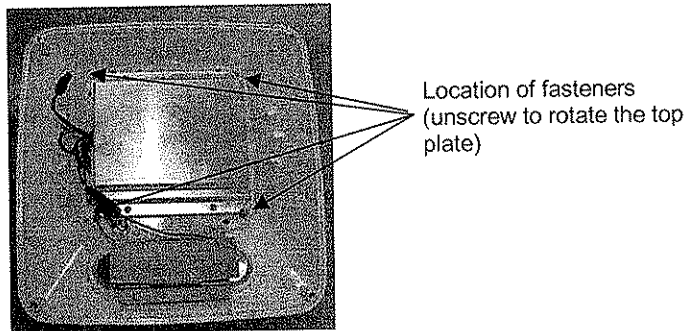

Figure 18: Top Housing
3. Unscrew four fasteners at the bottom of the top housing as shown in Figure 18.
1. Unscrew the security screws from the top plate (see Figure 18) and remove it.